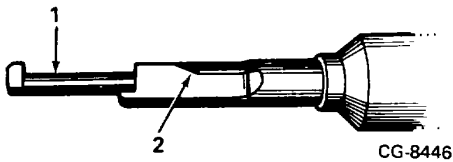

Figure 22. Tappet Holder 1068
19. Turn rotating handle of tappet holder (KDEP 1068) counterclockwise as far as it will go. Grease ramps and guide piece (Figure 22).